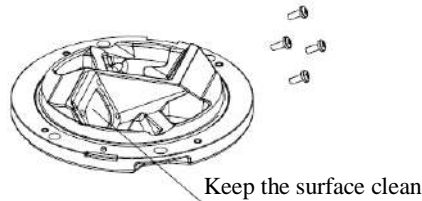

Figure 5-15
- Apply a little of silicone grease on the internal surface of the light cover window, push the lens and its gasket sleeve into the working position of the upper cover and wipe the lens surface with diethyl ether to keep it clean (See Figure 5-15).